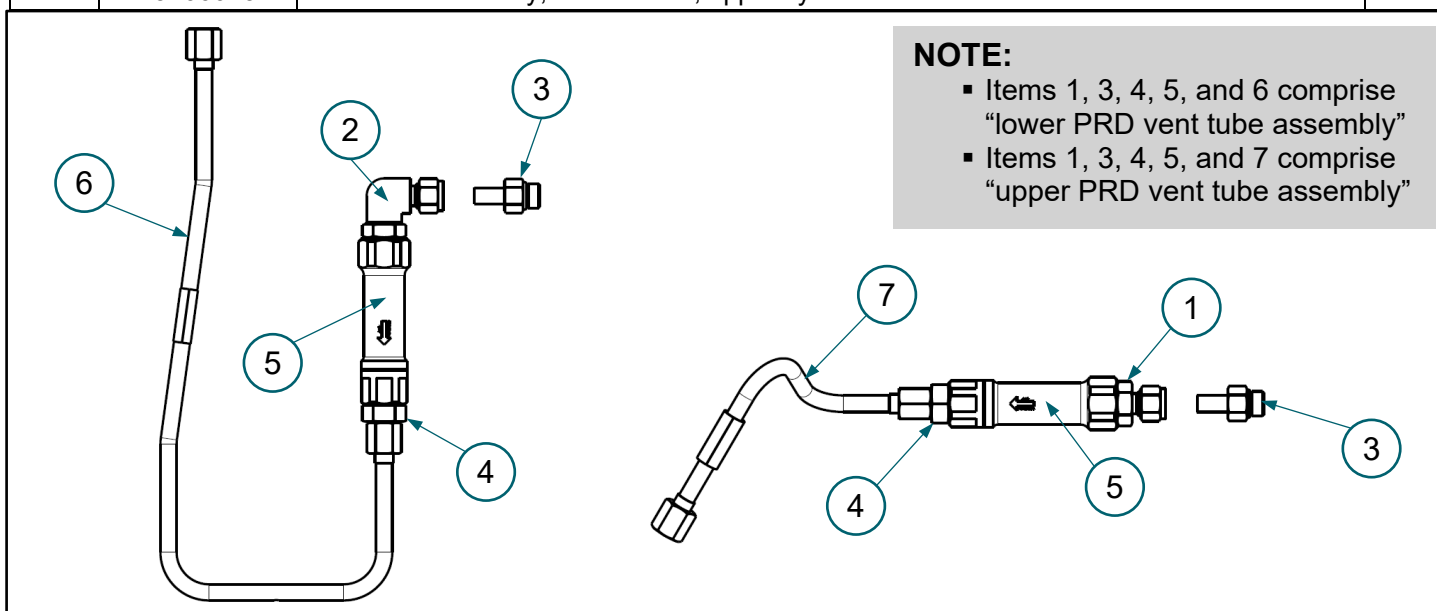

FIGURE 1. Parts List — Retrofit Kit, Emer PRD, Gen 2 FOB, Hexagon Agility® p/n 23106024
1. Verify contents of Retrofit Kit, Emer PRD, Gen 2 FOB, Hexagon Agility® p/n 23106024 is present in the correct quantities. **FIGURE 1**